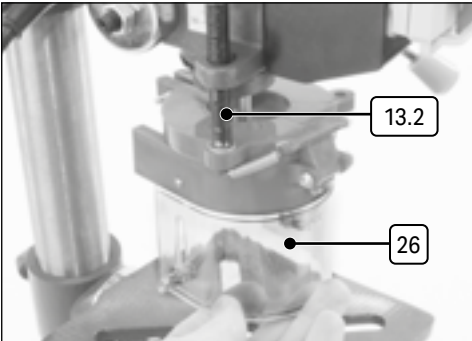

Fig. 6
6.6 Fitting the Chuck Guard (Fig.6)
- Pass the chuck guard assembly (26) over the chuck onto the collar (13.2).